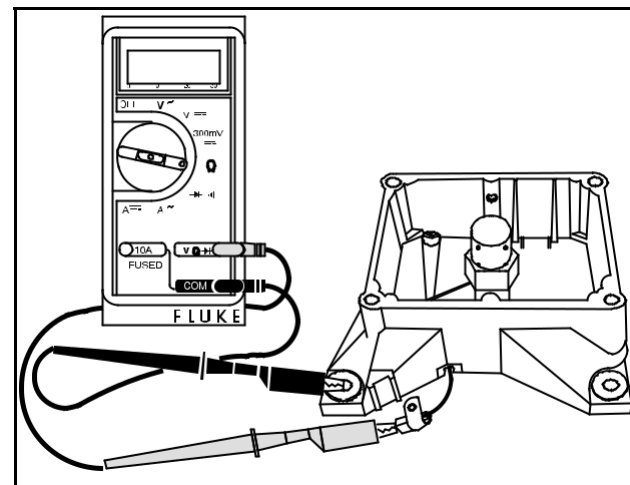

Fig. 26 – Oil Gard Sensor Test
5. Connect one meter lead to sensor wire and other meter lead to ground, Fig. 26.